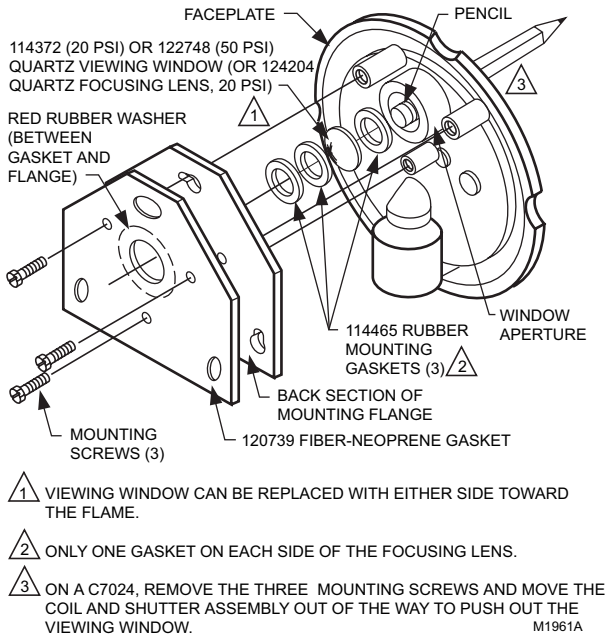

Fig. 14. Replacing quartz viewing window or focusing lens on C7024E.
1. Clear the viewing window (or focusing lens) when necessary. Remove the detector (see Troubleshooting section) and use a clean cloth placed over the eraser end of a pencil. You do not have to remove the window (or lens) to clean it. If it is broken or damaged, or if it is coated with a substance that cannot be cleaned, replace it (see Fig. 14).
C7024E (see Fig. 14)